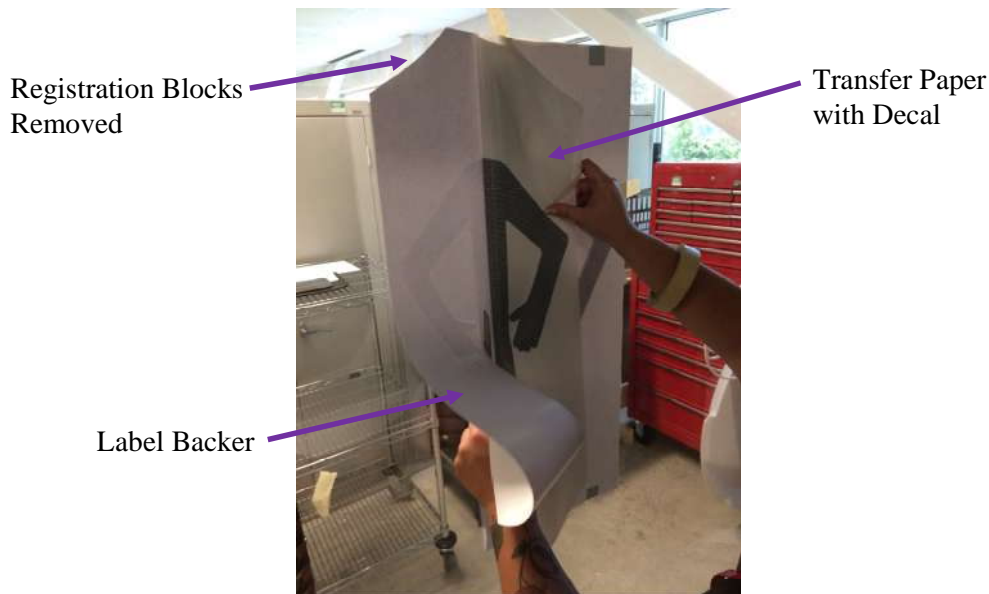

Figure 15 – Label Application Step 1
7.9.6 Lift the first side of the overlay and cut off the corner registration blocks used for alignment. Peel back the transfer paper with the decal and proceed to cut that half of the label backer off while holding the transfer paper with the decal up as shown in Figure 15.